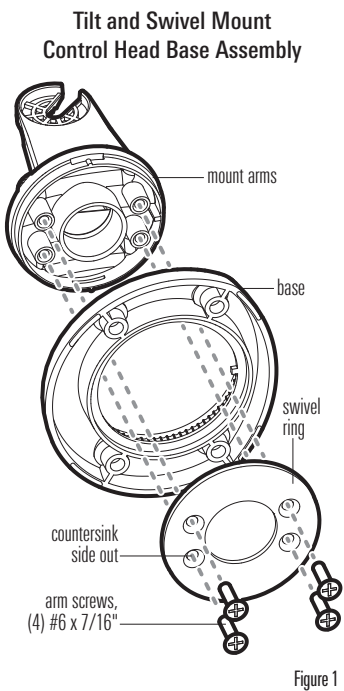

Figure 1
3. Secure the mount arms with the four #6 screws provided (Figure 1). **Hand tighten only!**